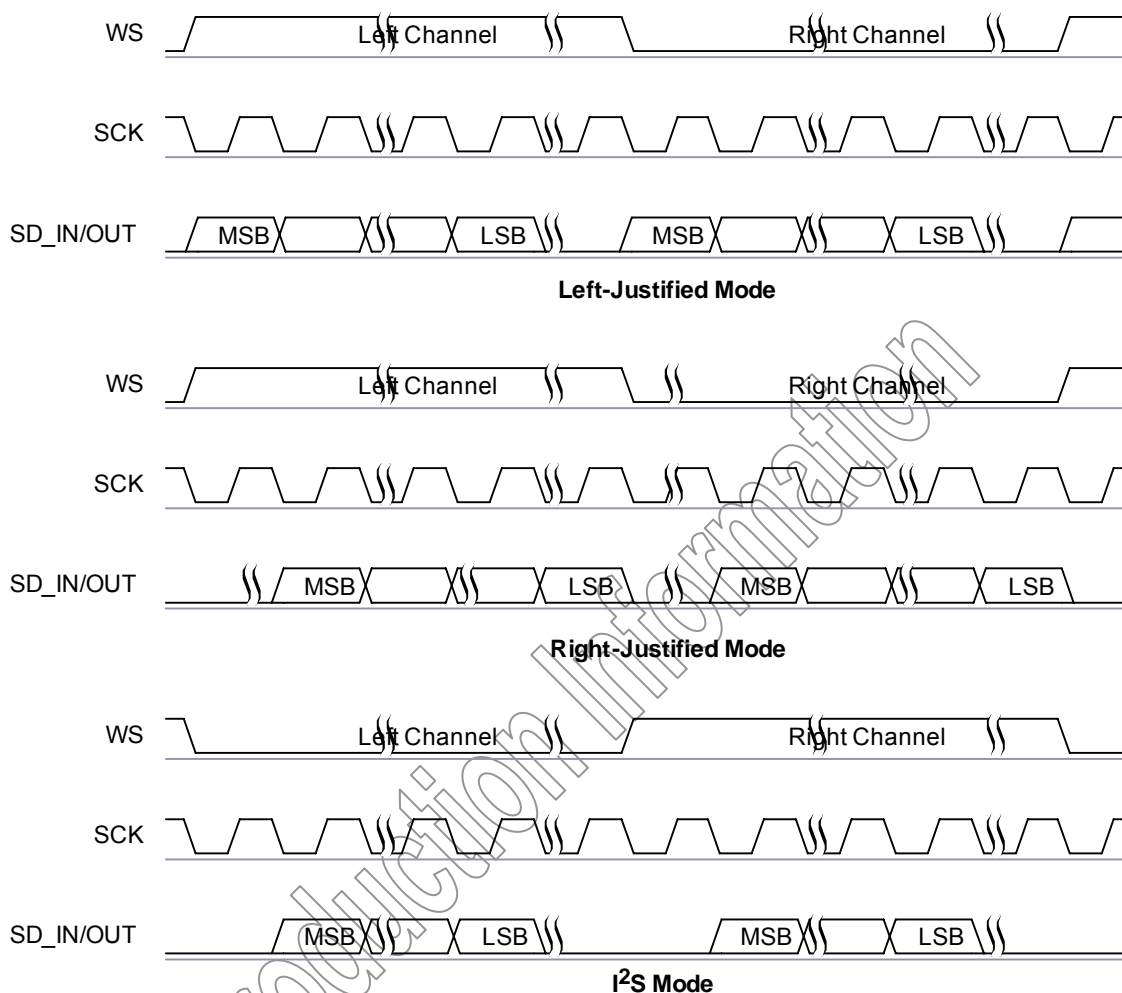

Figure 8.22: Digital Audio Interface Modes
The digital audio interface supports the industry standard formats for I²S, left-justified (LJ) or right-justified (RJ)⁽¹⁾. The interface shares the same pins as the PCM interface as shown in Table 6.1 and the timing diagram is shown in Figure 8.22.